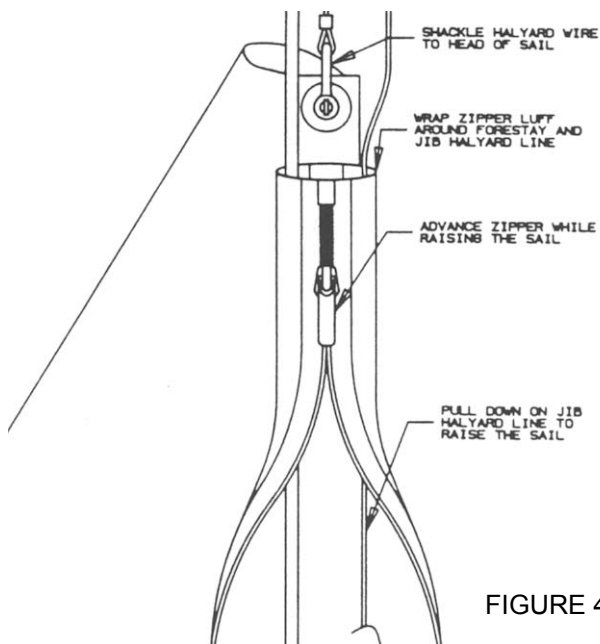

FIGURE 40
22.2 Attach the shackle on the end of the jib halyard wire to the head of the jib. (FIGURE 40)
22.3 Wrap the jib luff pocket around the lower forestay. Make sure that the jib halyard line is inside the luff pocket. Then engage the zipper. (FIGURE 40)